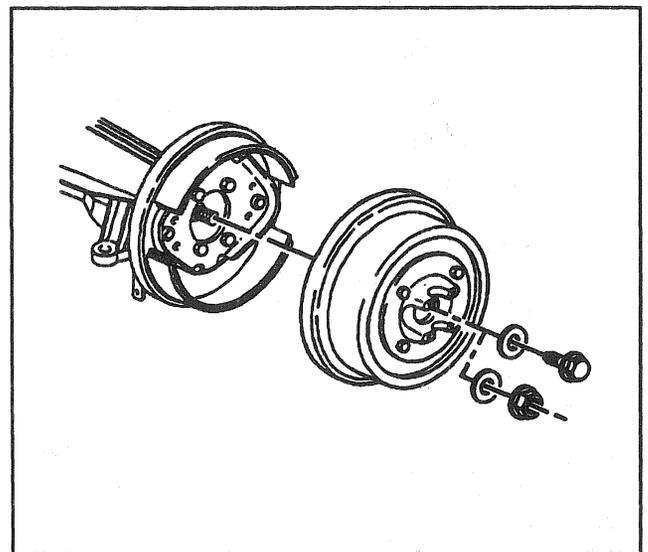

Figure 7—Drum Replacement
**Remove or Disconnect (Figures 7 and 8)**
Install or Connect (Figures 7 and 8)